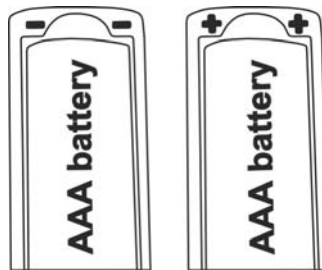

Fig. 6: Replace internal batteries
2. Remove the flat batteries, insert new battery of the same type (see § 7.2) by respecting the indicated polarities (see Fig. 6), restore the battery pack and screw the battery cover cap